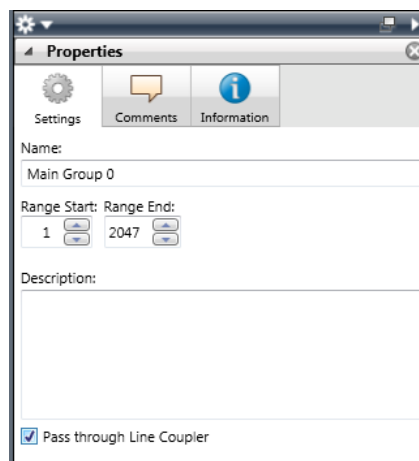

Figure 296: Setting the Pass through Line Coupler option.
1. Enable the switch **Pass through line couplers** option in the ETS4 group address or group range options, as shown in Figure 296. If this switch is set, the couplers will forward the group addresses towards the main line.